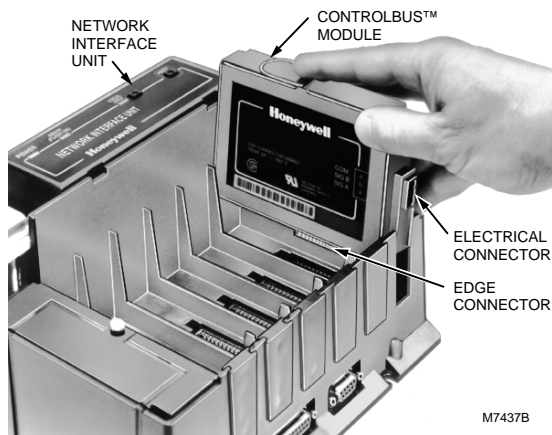

Fig. 2. ControlBus™ Module mounting.
1. Mount the ControlBus™ Module in the Network Interface Unit (see Fig. 2). Do not mount the Network Interface Unit with the Interface ControlBus™ Module edge connector slots facing down.
4. Mount the Network Interface Unit and insert the ControlBus™ Module into the Network Interface Unit slot, see Fig. 2 and 5.